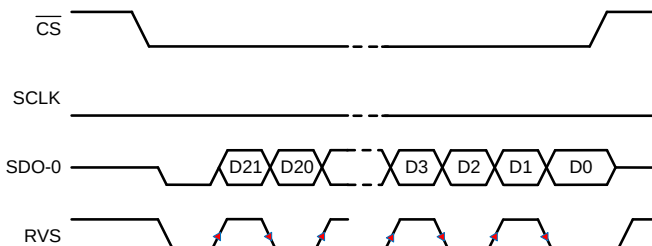

**Figure 76. SRC-INT-SD: SRC, INTCLK, Single SDO, DDR**
| SRC-INT-SD | INTCLK (3)     | Single    | DDR              |                                      | 53h      | 9                                  | <a href="#">Figure 76</a> |